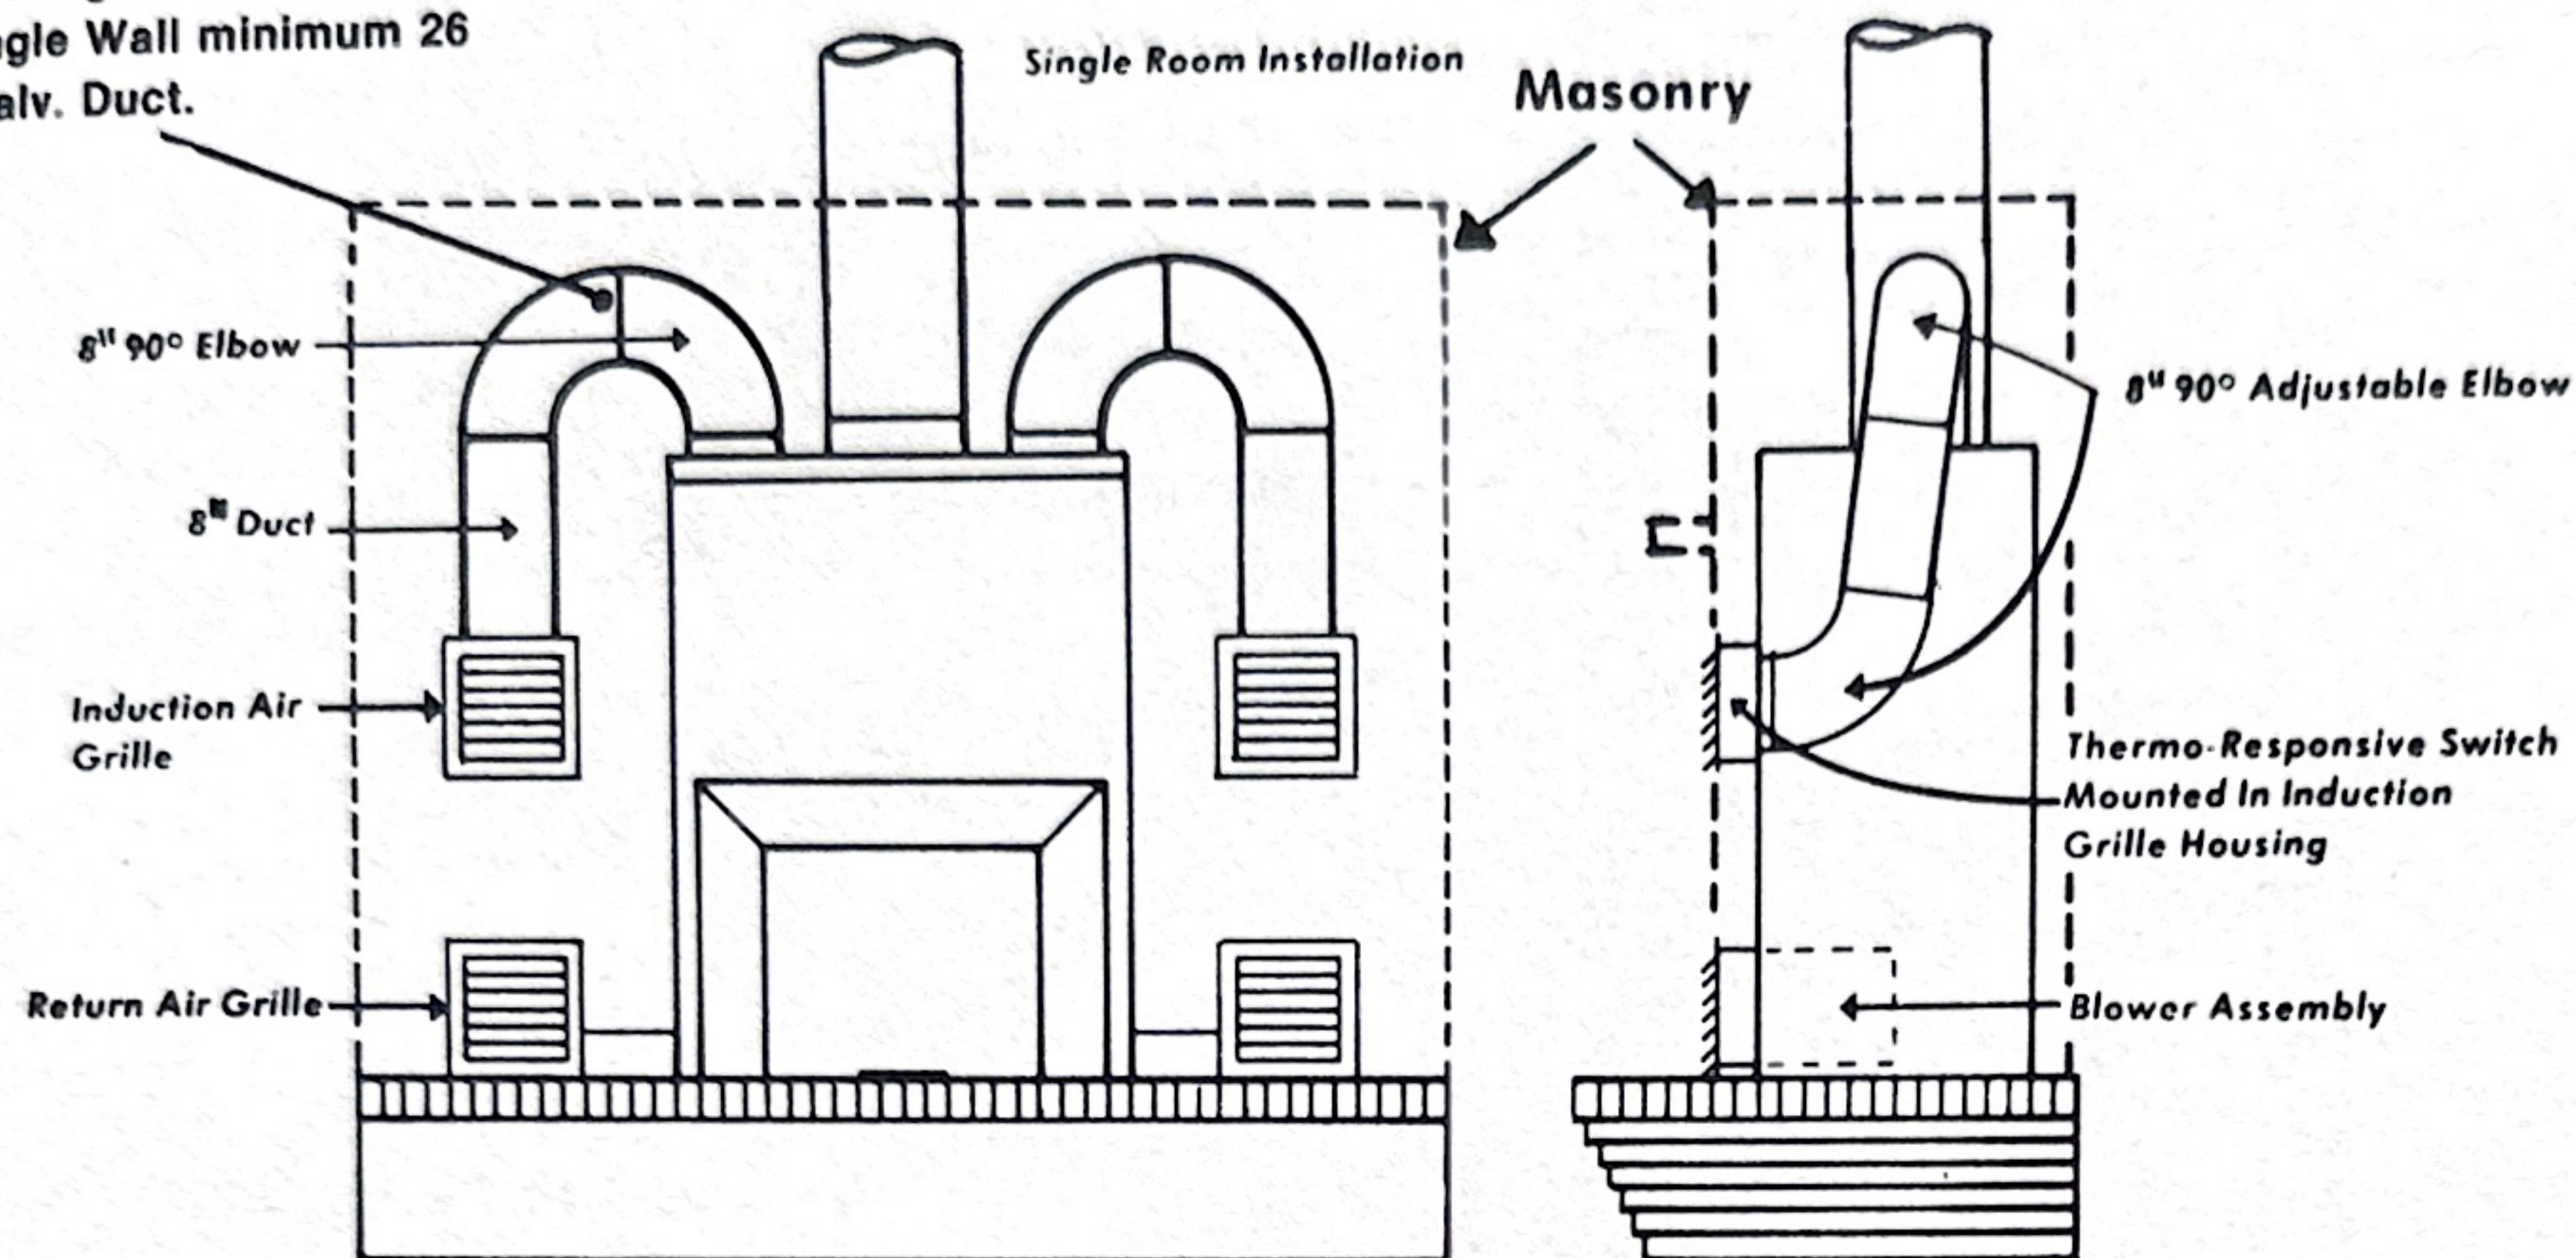
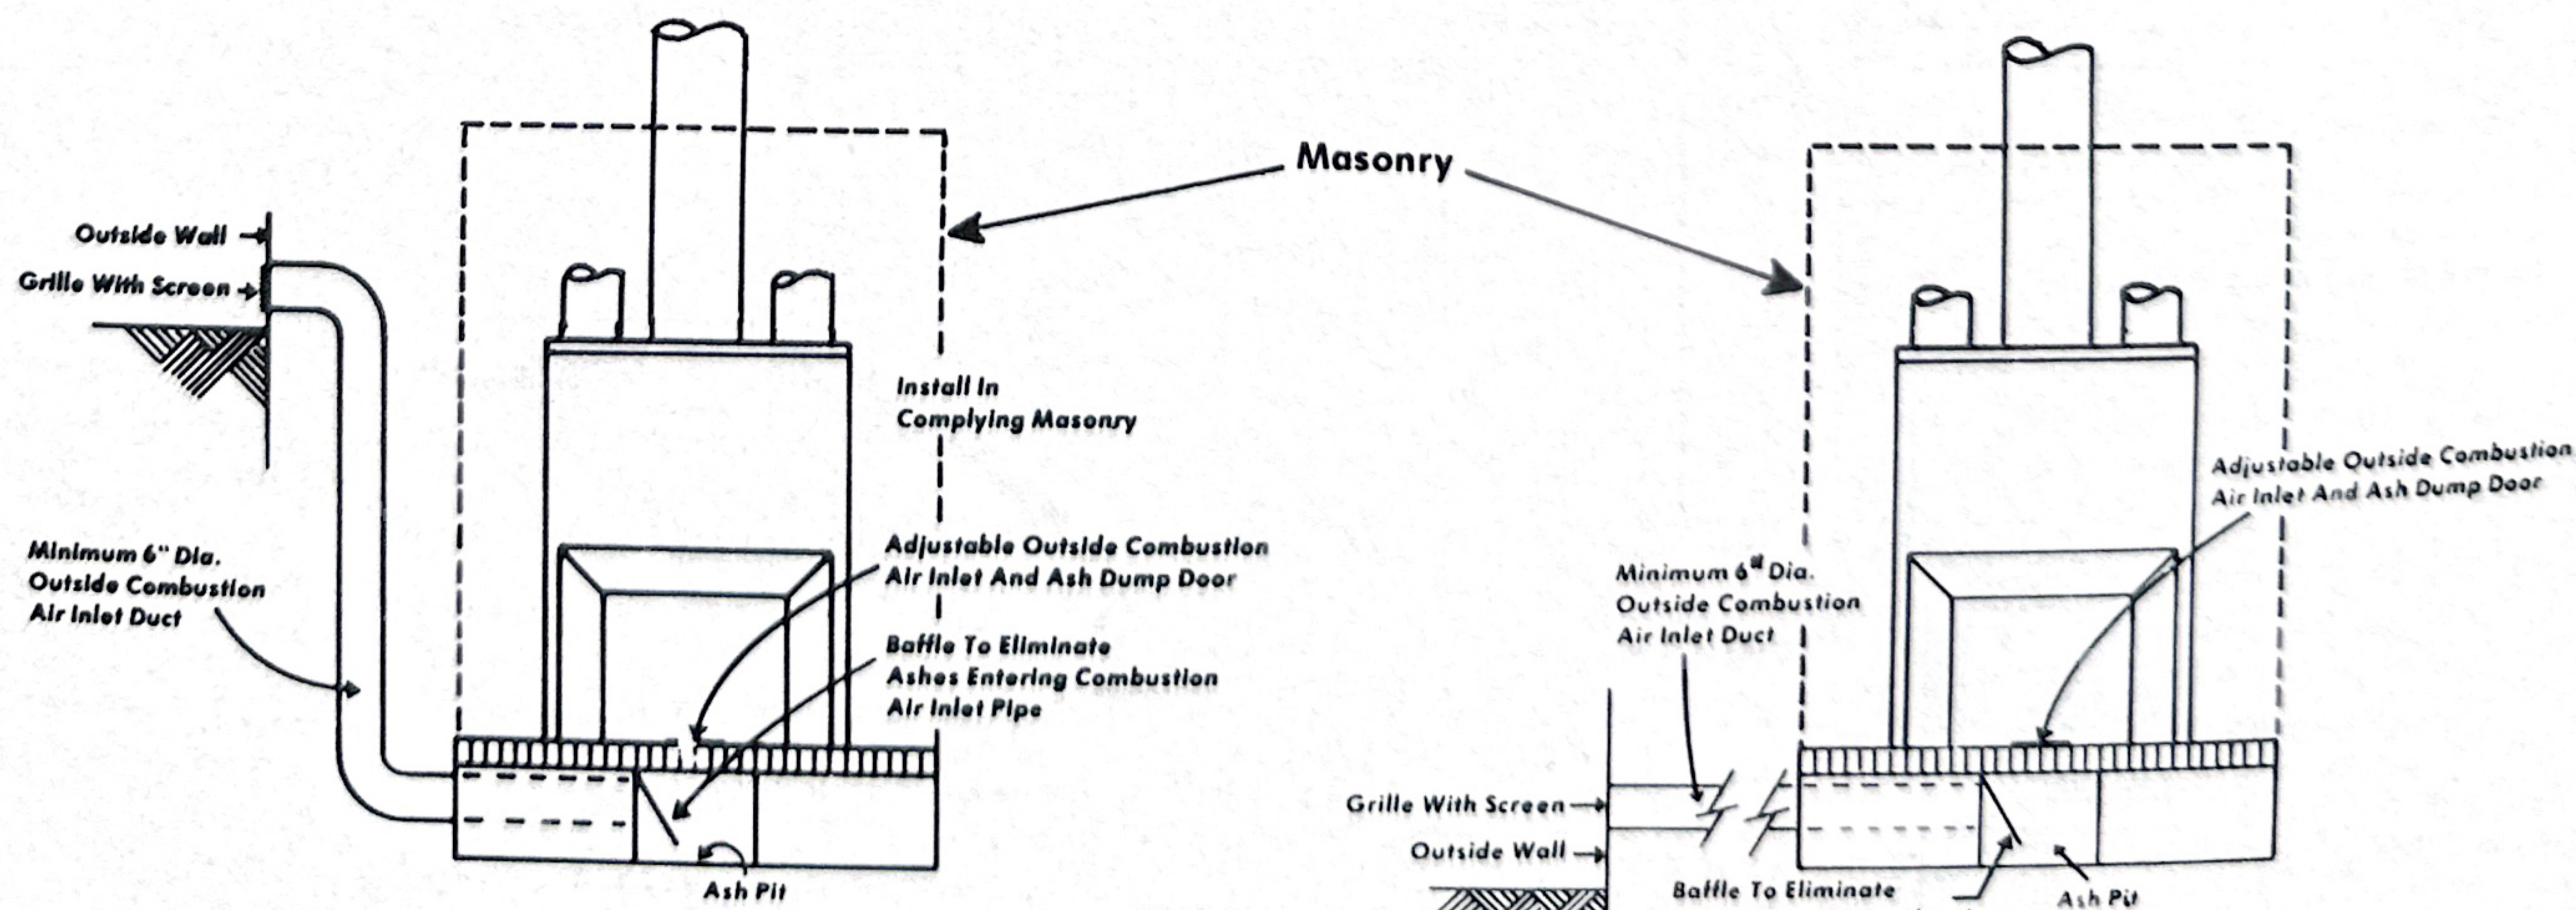

Fig. 4
Fig. 7
3. Before commencing construction of your fireplace, it is important to plan your footing (check local Building Code), plan your duct for outside combustion air (Figs. 7,8,9), plan your duct work and positioning of return air blowers and position of the induction air grilles (Figs. 3,5,6). When planning the positioning of the return air and induction air grilles, you may position them on the front, side, or on the back side of the fireplace. In all cases grilles must be installed flush with the surface of the masonry. The grilles need to be installed in such a manner as to insure that the four (4) edges of the grilles are free from any obstruction which would prevent their easy removal from the housing to which they are attached. Grilles must be left attached to the housing when installed in the masonry to prevent misalignment. Placement of lintels required to bear weight of masonry are shown in Fig. 3. Lintels are available from the manufacturer in three (3) sizes, 42", 48" and 54". When you install a 36" Queen Air you will need three (3) 48" lintels to support flue liners and fill, and one (1) 42" lintel over the fireplace opening. When installing a 42" Queen Air you will need three (3) 54" lintels to support flue liners and fill, and one (1) 48" lintel over the fireplace opening. You must use the "wye" specified in Fig. 2, except in that instance where no duct extends beyond the masonry. In this case refer to Fig. 4. Any ducting system in the home to which the Queen Air ducting would be coupled must be Class 1 or Class 2 duct suitable for use with air temperatures not to exceed 250°F. This duct must maintain 1" clearance from combustible materials and maintain a free open area (outlet register area) of a minimum of 78 sq. in. for each of the two ducts from the Queen Air.
hot air is expelled through grilles on the fireplace only, install the thermo-responsive switch as shown in Figs. 4,6, and 12. In this case, use 200°C/392°F wire. This thermo-responsive switch must be wired in series with the blower motors. This properly accomplished, the blowers will not run until the unit gets hot. Once the unit warms up and closes the thermo-responsive switch, the blowers will continue to burn unless de-energized by the thermostat, or until the unit cools off. The variable speed control provided has an off position. A thermostat is furnished (see wiring diagram for installation of thermostat Fig. 11). The recirculating blowers on high speed are rated at 500 CFM each. It is important to note that there is a "LEFT" and "RIGHT" hand blower.